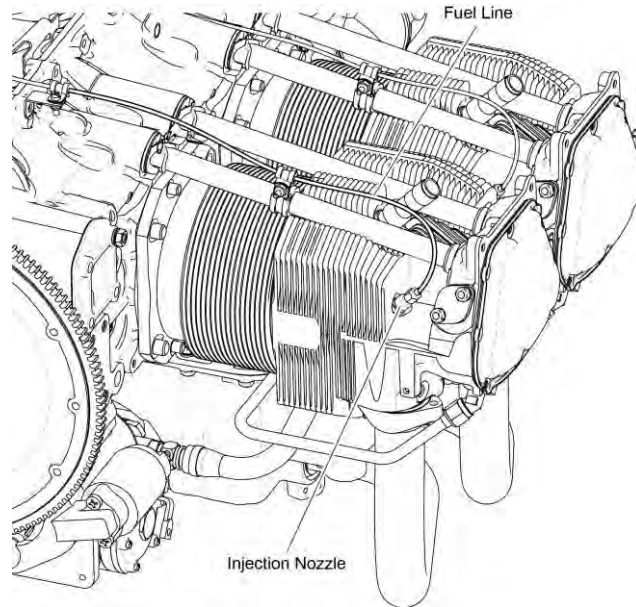

Figure 10
- (1) Disconnect the fuel line from the injection nozzle (Figure 10).
- (2) Remove the injection nozzle from the engine cylinder.
- (1) (Optional) Complete the “Injection Nozzle Fuel Flow Check” in this chapter.
- (2) Lightly lubricate the injection nozzle threads with engine oil mixture.
- (3) Install the injection nozzle (Figure 10) on the engine cylinder.
- (4) Torque the injection nozzle to 60 in.-lb. (7 Nm). Continue to torque the injection nozzle until the letter or number stamped on the nozzle points downward.
- (5) Connect the fuel line to the injection nozzle.
- (6) During the “Operational Ground Check” in Chapter 72-00 (which is to be done after all maintenance is complete), look for fuel leaks at the fuel lines and connections during engine operation. Identify and correct the cause of any fuel leak. There must not be any fuel leaks when the engine is returned to service.
- B. Disconnect the fuel line from the injection nozzle (Figure 10).